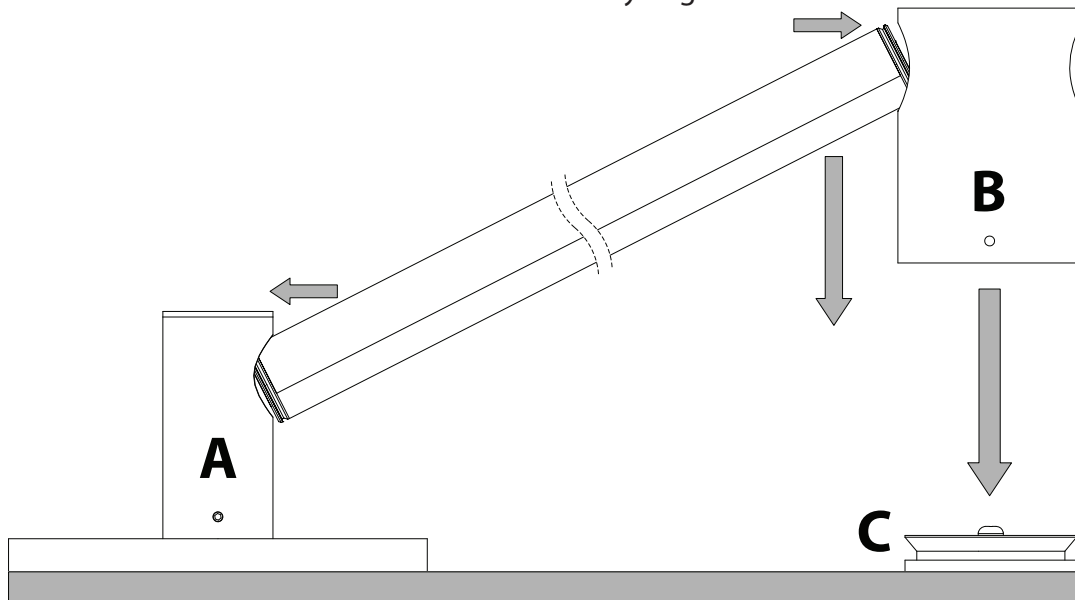

Fig. 4
4. Starting at a power feed (A), place one tip of the luminaire in the slot of the feed and the other in the connector (B) so that it is lined up with its wall anchor (C) (Fig. 4).